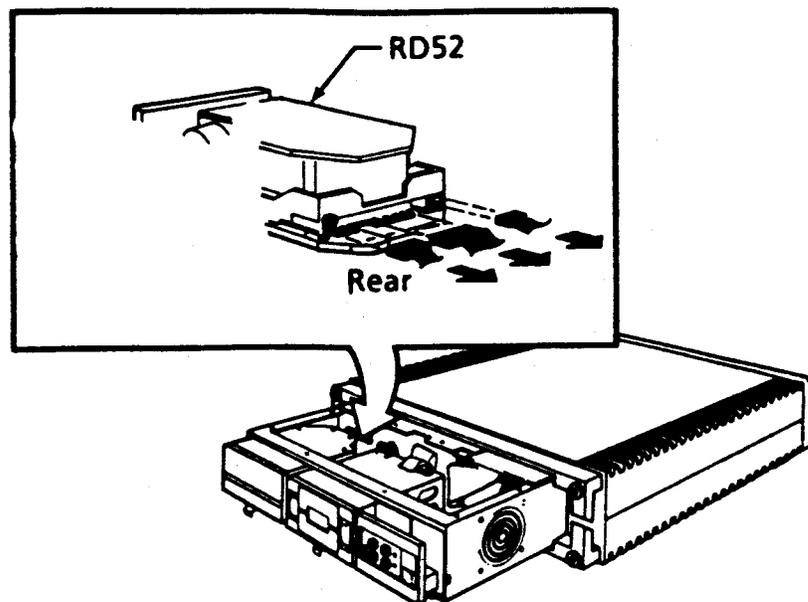

Figure 6-12: RD52 Cable Removal
2. Disconnect the dc power and two signal cables from the drive (Figure 6-12).